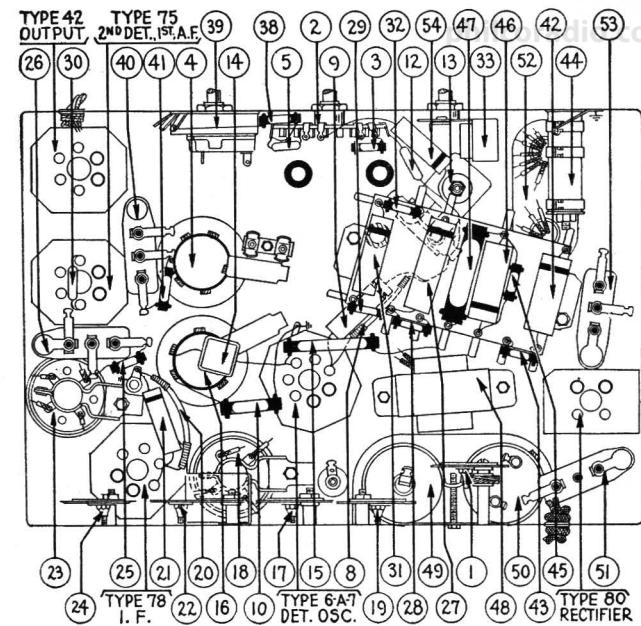

Fig. 4—Base View
(1)—I. F. (Intermediate Frequency)—Remove grid clip from cap on 6A7 tube and connect antenna lead from signal generator to cap of tube. Connect ground lead to ground post on set. Turn on set and signal generator; set wave switch of latter to 460 K. C. (the I. F. of Model 66) and dial of set at 540, wave band switch to left. Adjust each of the four I. F. compensating condensers (17), (19), (22) and (24) in turn so that maximum reading is obtained in the output meter. If the meter reading goes off scale, adjust the attenuator on the signal generator so as to get a lower reading. These I. F. condensers (visible in Fig. 4) are adjusted by inserting the
(2)—WAVE TRAP—Replace grid clip on cap of 6A7 tube and connect antenna lead from signal generator to antenna post on set. Set signal generator at 460 K. C. and adjust wave trap (1) so as to get MINIMUM reading in output meter.
(3)—ANT. and OSC. H. F.—These adjustments (7) and (11) are located on top of the tuning condenser assembly at right (facing front of set) and adjusted from above. The "ANT" (7) is nearest front of set. Set signal generator at 1700 and dial of set at 1700 and adjust these two condensers to get maximum output meter reading.
(4)—OSC. L. F.—This condenser (13) is located underneath chassis (see Fig. 4) and is reached from underneath. Set dial of set and signal generator switch at 600, and adjust for maximum reading.